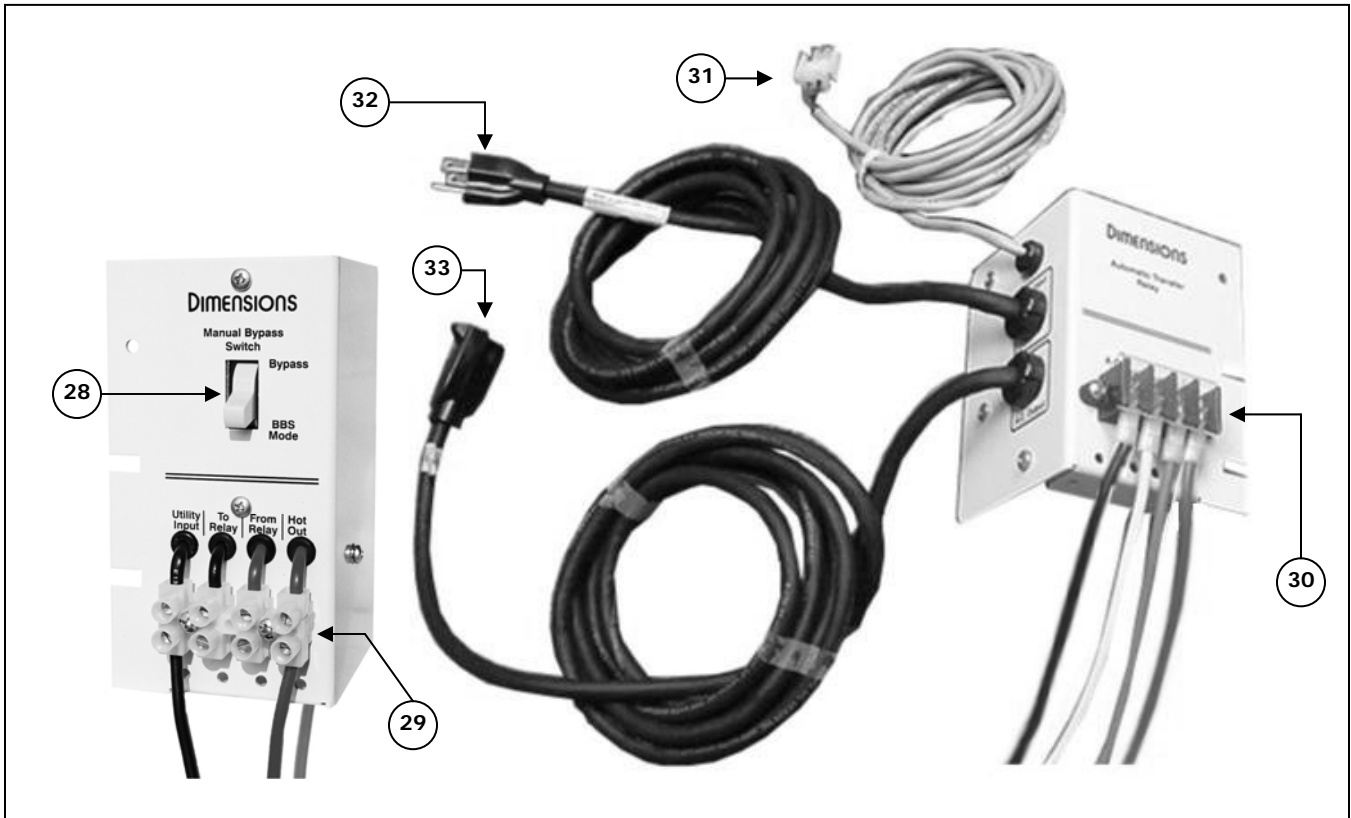

FIGURE 2: MBPS and 30ATR physical description
- (1) **Input Breaker:** Trips to protect utility power from a BBS short circuit.
- (2) **Output Breaker:** Trips to protect the BBS from a load short circuit.
- (3) **Battery Capacity:** Indicates a ratio of battery capacity level.
- (4) **Battery Charger On:** The green LED lights only when external AC power is present to indicate that the battery charging is engaged.
- (5) **Battery Charger Full:** The green LED lights only when external AC power is present to indicate that batteries are fully charged.
- (6) **Check Battery:** Yellow LED indicates a problem in the batteries or the battery cable.
- (7) **Relay A – On Batt:** Green LED lights to indicate that the BBS is in Inverter mode.
- (8) **Relay – B – Low Batt:** Green LED lights when the system is in Inverter mode and the useful battery capacity remaining is at the reference level chosen by user (40% in most applications).
- (9) **Relay – C – 2 Hr. Time:** Lights only to indicate that the BBS has been in Inverter mode for more than two hours.
- (10) **BBS AC Receptacle Cord:** Connects to the 30ATR or CMBPS-30ATR AC plug item 32 in Figure 2 below.
- (11) **BBS AC Connector Plug:** Connects to the 30ATR or CMBPS-30ATR receptacle cord item 33 in Figure 2 below.
- (12) **Dry Relay Connector Board:** Wiring connector board.
- (13) **Temp. Comp. Sense Wire:** Three-pin connector connects to a 9ft extension wire to the negative battery post.
- (14) **Battery Connector Cable:** Enables fast connection to batteries, Red (+) and Black (-) marks.
- (15) **Inverter On:** Green LED lights only if the power switch has been set to “On” to indicate that the DC to AC inverter is on.
- (16) **Inverter – Shutdown – Low Batt:** Red LED lights to indicate that the battery voltage has dropped to 42VDC and will shutdown in five seconds due to a low voltage condition.
- (17) **Inverter – Shutdown – Overload:** Red LED lights to indicate that the power demand by the load is larger than the power the BBS can deliver. The inverter will shutdown in five seconds due to an overload condition.
- (18) **Inverter – Shutdown – High Temp:** Red LED lights to indicate that the internal electronic circuit temperature has exceeded the maximum operating temperature limit. The inverter will shutdown in five seconds due to a high temperature condition.
- (19) **Power On/Off Switch:** Turns the inverter “On” or “Off” and activates or deactivates the dry relay contacts as well.
- (20) **Battery Voltage Test Point:** Attach voltmeter probes to check the battery voltage at the inverter.
- (21) **Meter Reset Button – Number of Outages:** Push to reset the inverter Number of Outages Meter.